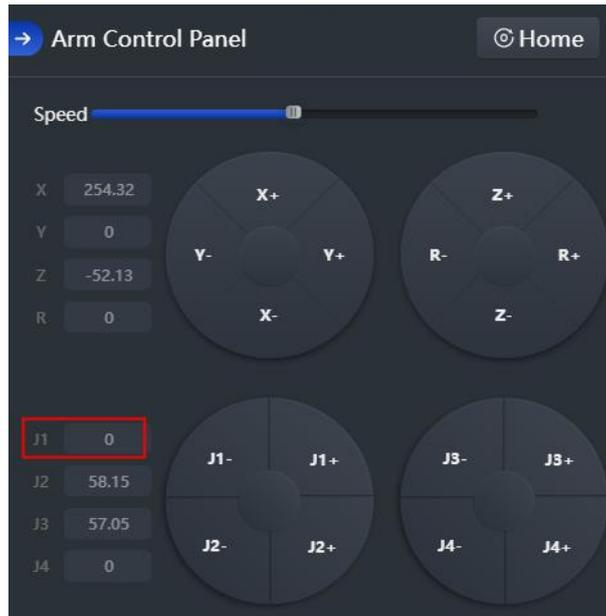

Figure 5.120 J1 coordinates
Step 8 Click **Adjusted, confirm Calibration** to start calibrating the base encoder. You can check the J1-coordinate on the **Arm Control Panel** page, as shown in Figure 5.120.